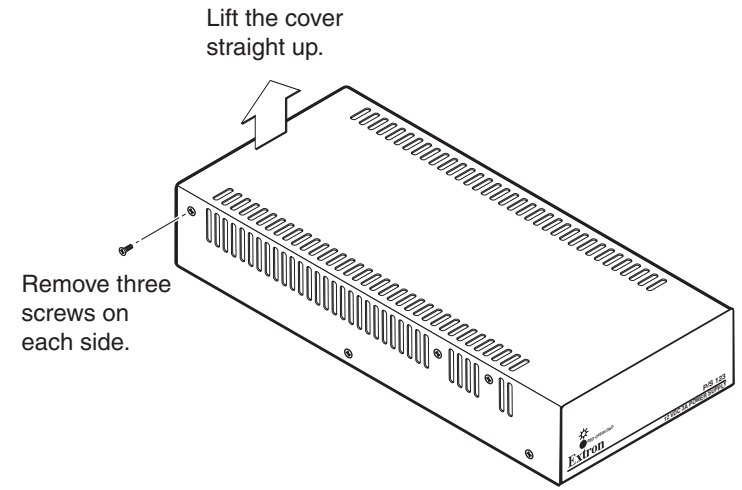

Figure 4 — Removing the top cover
3. Remove and retain the six screws that connect the top cover of the PS 123 to its bottom board (figure 4, on the next page).
15. Use the six screws you removed in step 3 to secure the top cover of the PS 123 back onto its bottom board (figure 4 on page 5).